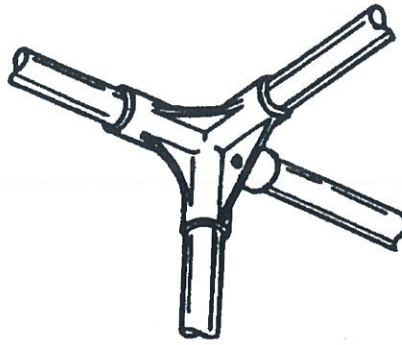

Figure 5-4 — Angle Support Socket
11. These sockets are used to join the supports, tent tube, at the ridge and eave line. A total of four supports can be joined by one socket (Fig 5-4).